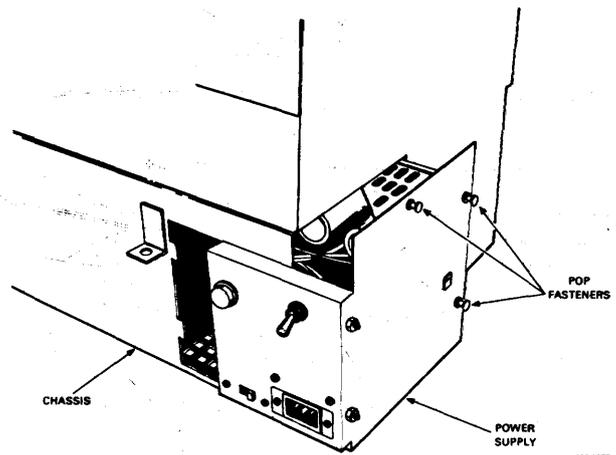

Figure 5-8 Power Supply Removal
3. Release the three pop fasteners on the side of the chassis by pulling the plungers out (Figure 5-8).